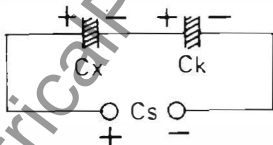

Figure 1
2. Place the unknown capacitor (C_x) in series with the known value capacitor (see Figure 1).